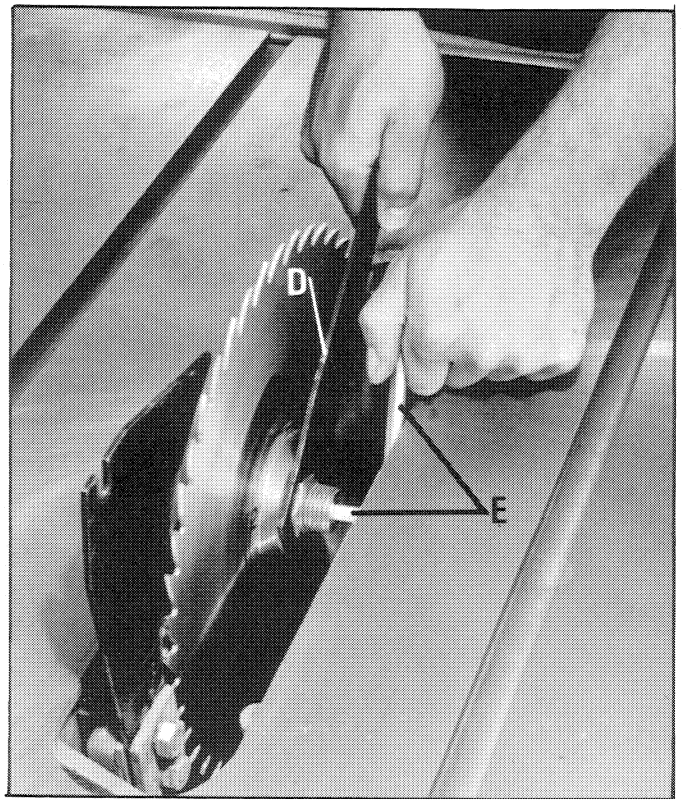

Fig. 24
3. Tighten arbor nut with wrench (D) while holding arbor with allen wrench (E) inserted into hex in end of arbor, as shown in Fig. 24.